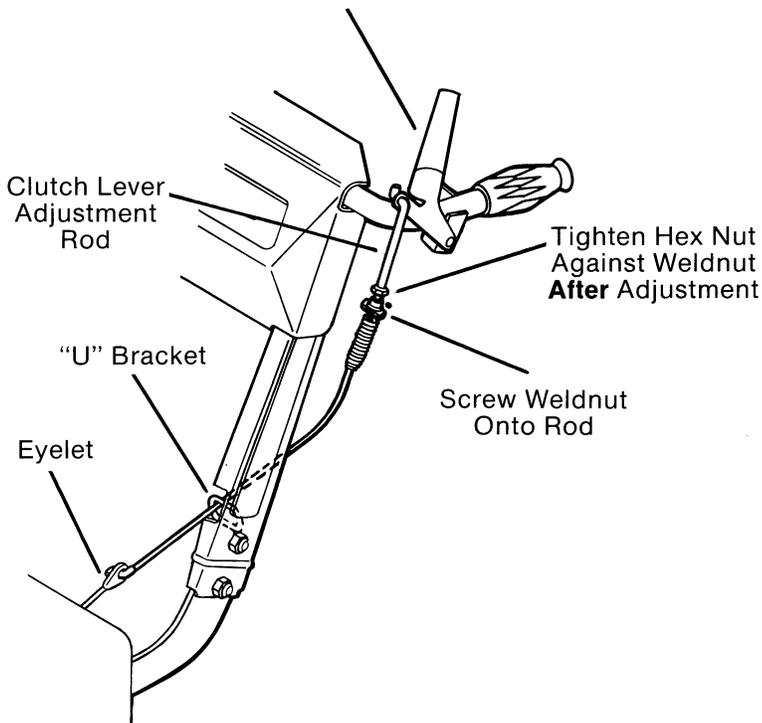

FIG. 10
- L. Hook small end of clutch cable into eyelet of cable coming out of rear of snow thrower. (Fig. 10) Route cable through "U" bracket on inside of handle. (Fig. 10)
- M. With clutch lever all the way up (Fig. 10). Screw weldnut and spring onto clutch lever adjustment rod.
Screw weldnut on rod to a point **just before hex shaft starts to turn**. Hold weldnut in this position and tighten the  $\frac{1}{4}$ " hex nut against weldnut. (Fig. 10)